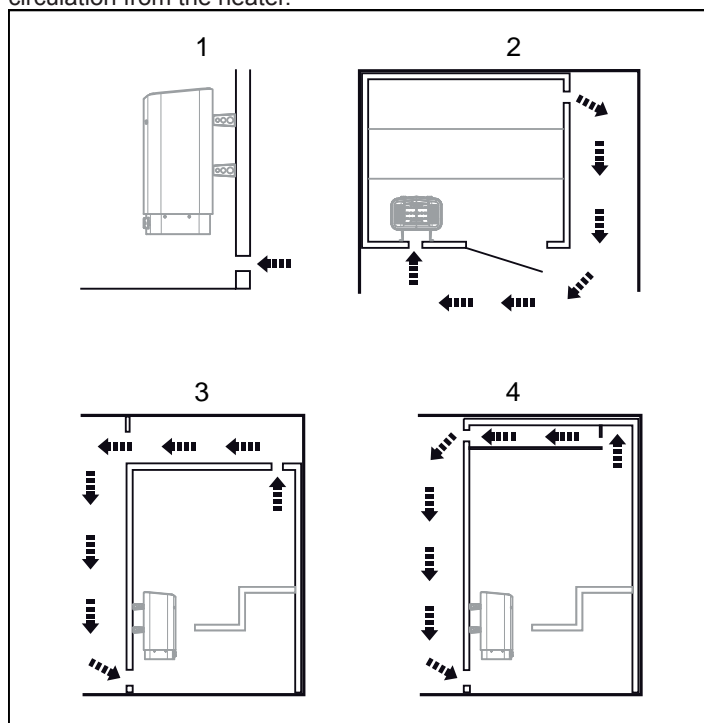

Figure 6: Positioning the air intake and exhaust vents
- at the maximum possible distance from the air intake vent, e.g. diagonally (see Figure 6).
- high on the wall or in the ceiling (see Figure 6).